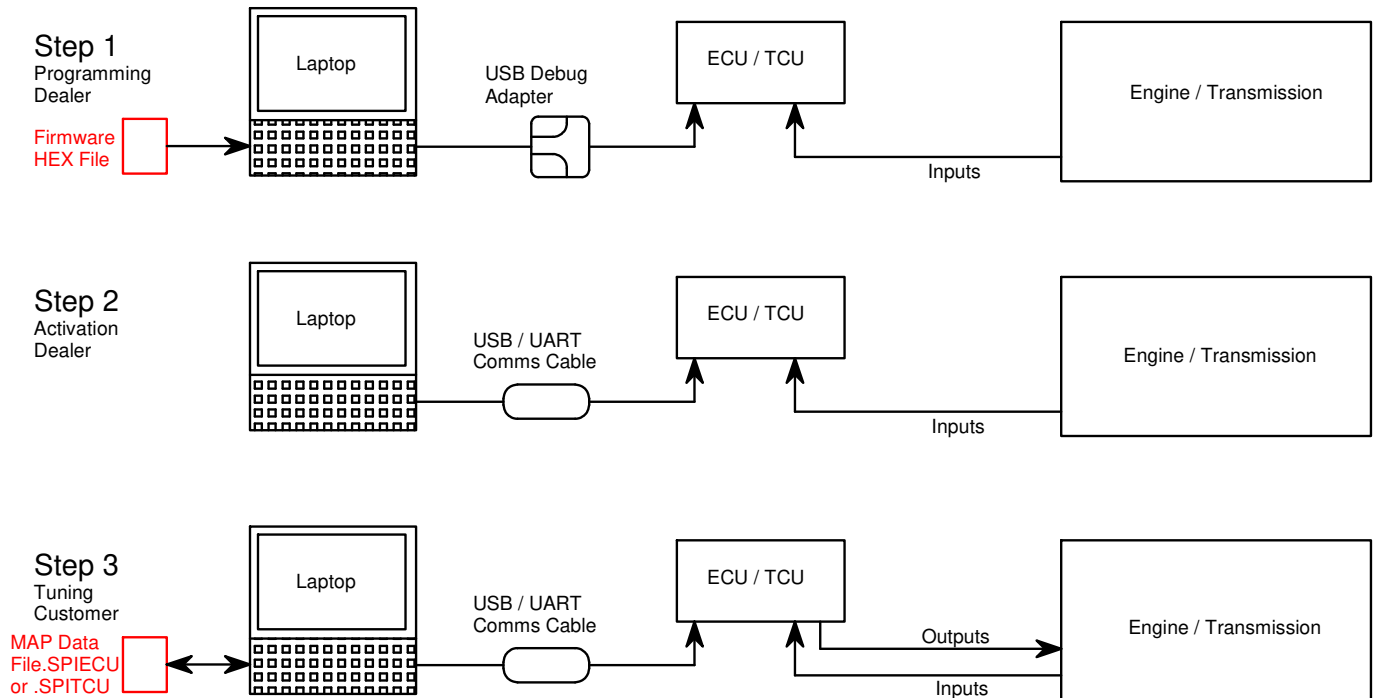

Fig 1
1. The **firmware** will initialize the hardware to work on a specific engine or transmission. This firmware is fixed code and is pre-loaded into the product with the USB Debug Adapter or Firmware Programmer. The programmer is optional for an end user because he will use it only once. The dealer has the option to customize standard hardware for all different applications with this programmer. The firmware files is freeware on our website and has the extension of **.HEX**. This process is illustrated in step 1 of Fig 1. Orion does not need a firmware programmer as it has a BootLoader. This means firmware is loaded with the USB/UART tuning cable. The firmware files have a **.FIRM** extension.
2. Spitronics developed an internet **activation** system to allow dealers abroad to carry stock at a reduced price. Then when the dealer sells to a customer, he will activate the unit in a specific hardware class according to the required firmware for that application. He will then do a payment for the rest of the amount. He will load the correct firmware and startup Map for the customer and guide him to the correct drawings and settings. He will test the unit on a simulator and verify that everything is in order as to assist the customer. This feature makes the product counter ready without the delay of ordering the product on demand. This procedure is illustrated in the steps of Fig 1. Note that Orion does not use Step 1 because it has a BootLoader.